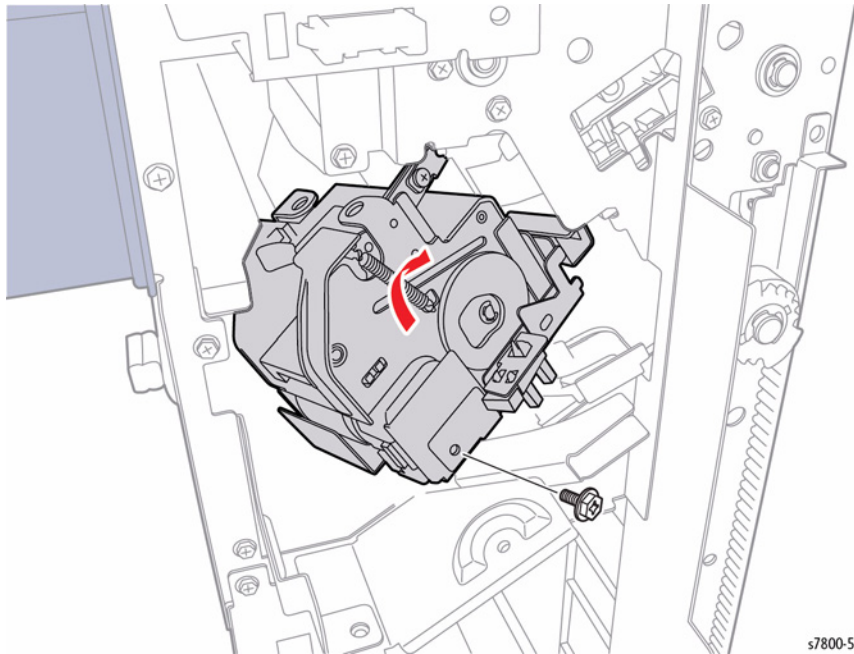

Figure 4 Removing the Stapler Assembly
14. Incline the Stapler Assembly in the direction of the arrow as shown in Figure 4.